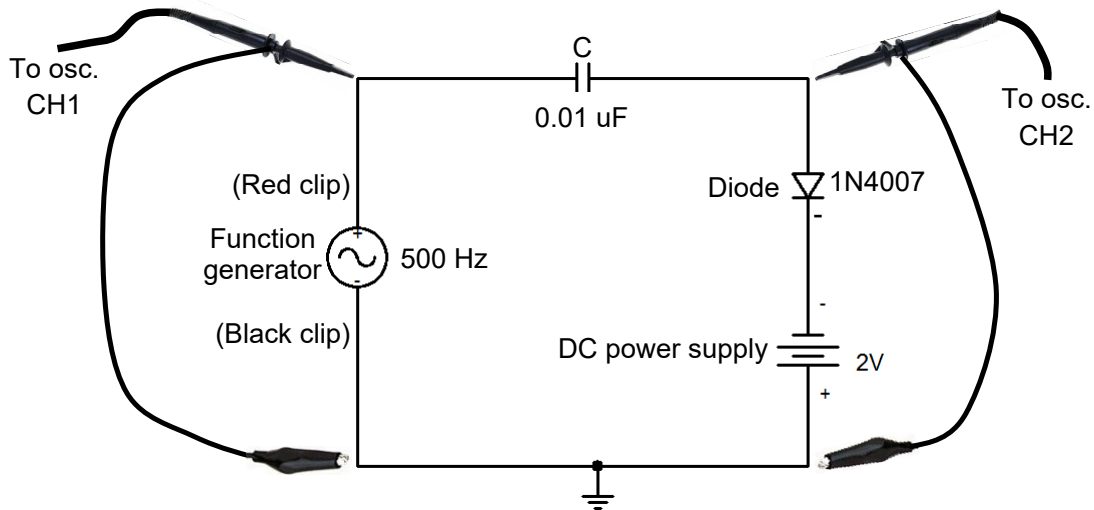

Figure 2: Diode clamping circuit
8. Repeat steps 1 to 7 for Figure 2.
1. Connect the function generator, 0.01 μF capacitor, diode and a DC power supply in series on a breadboard, as shown in Figure 2. For diode, the negative terminal is shown by the grey stripe on its body.
2. Connect the probe hook clip of the oscilloscope CH1 at the output of the function generator (labelled CH1 in Figure 2). Connect the CH1 ground lead (black croc clip) to the ground of the function generator (its black croc clip).
3. Connect the probe hook clip of the oscilloscope CH2 between the capacitor and the diode (labelled CH2 in Figure 2). Connect the CH2 ground lead (black croc clip) to the ground of the function generator (its black croc clip).
9. Continued from your circuit in Figure 2, reverse the diode polarity, i.e. the negative terminal of the diode is connected to the capacitor. Repeat steps 4 to 8. What is the difference between the output signal in step 9 and step 5?